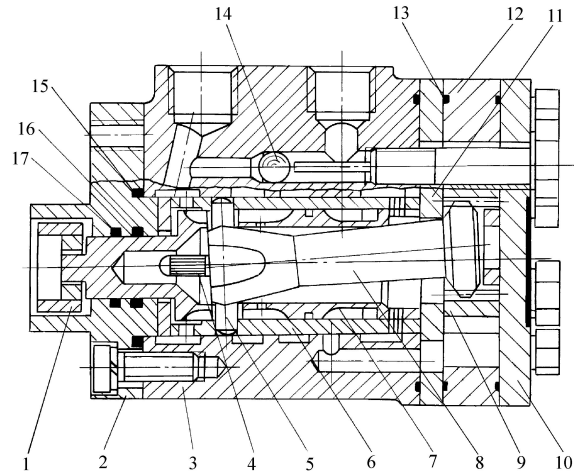

Figure 5-14 Structure of Hydrostatic Steering Gear
5.3.7.3 Orbit hydrostatic steering gear with rotary valve(Figure 5-14)